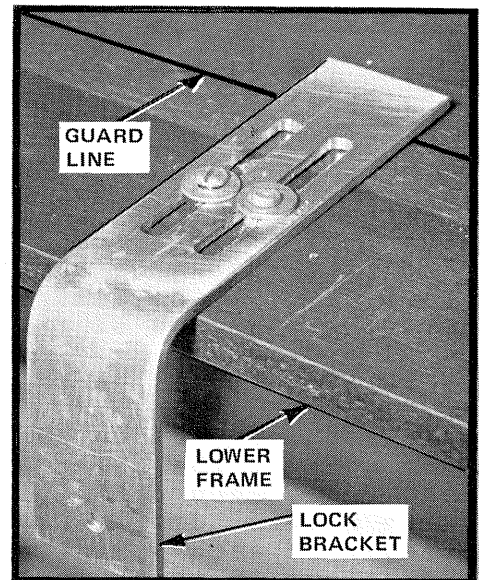

FIGURE 8-9 Mount the Bracket to the Lower Frame.
Mount the Bracket to the Lower Frame with two (2) #6 x 1/2" wood screws as shown in FIGURE 8-9. See the NOTE below.
The brackets shown in FIGURE 8-9 and 8-10 are prototypes. The washers shown in FIGURE 8-9 and 8-10 are NOT required with the production Lock Bracket.